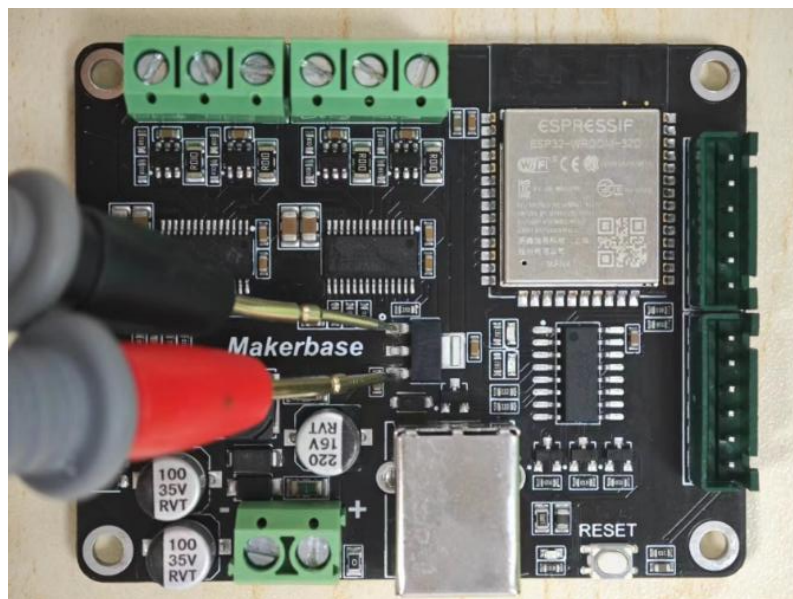

Figure 2 Measuring whether 5V is shorted-circuited
2. Use a multimeter to check whether the 5V of the driver board is shorted to GND, as shown in Figure 2